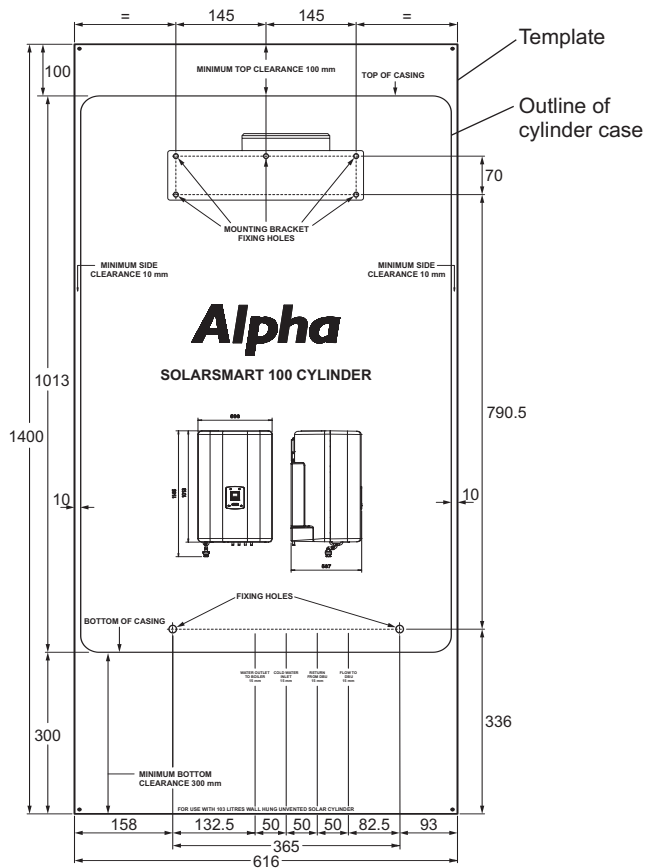

Fig. 12
4.4 FIT THE SOLAR CYLINDER - Fig. 12